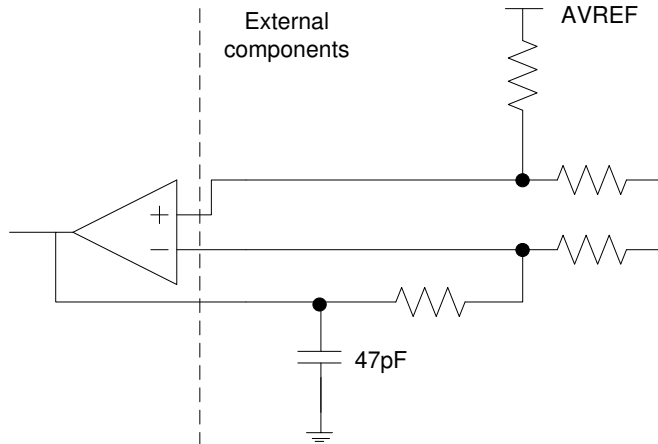

Figure 7. Op amp output capacitor
- (1) Data guaranteed by design.
- (2) To guarantee stability of the operational amplifier, it is recommended to load the output pin by a capacitor of 47pF, see Figure 7.